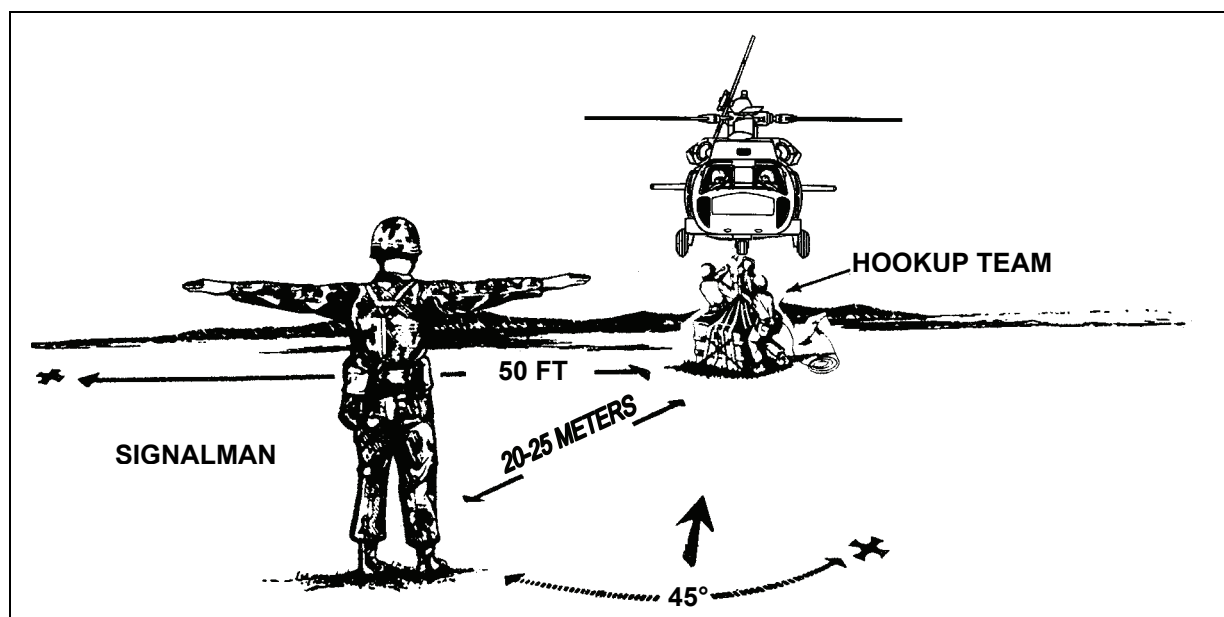

Figure 5-6. Relationship of Aircraft, Signalman, and Hookup Team
- The signals must be precisely given to prevent any misunderstandings between the signalman and the pilot. While the helicopter is hovering, the signalman is responsible for the safety of the hookup team. The hookup team must alertly watch the helicopter during the complete operation (Figure 5-6).